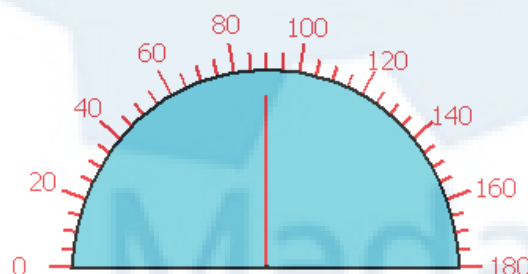

Figure 4-69
3. In screed edit area, press down left key of the mouse and drag the mouse to draw a Meter control. See Figure 4-69 for an example of Meter.